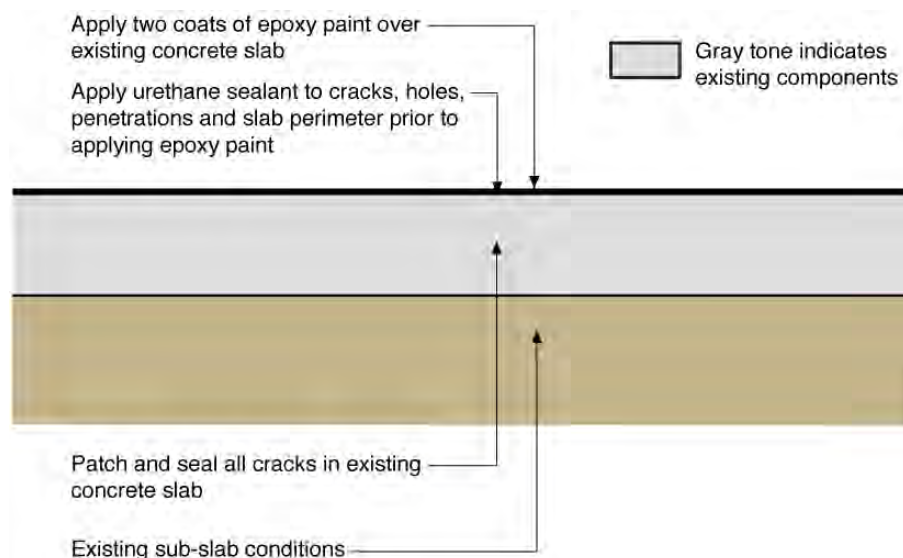

Figure 1. An uninsulated (or existing insulated) basement slab is retrofitted to reduce moisture transmission by sealing with epoxy paint. Reference
The epoxy paint is applied directly to the cleaned, patched concrete slab surface (see Figure 1). Water-sensitive materials should not be placed in direct contact with the slab. For instance, all wood wall sill plates should be pressure treated and/or separated from the slab with a capillary break. All interior gypsum board should be held off the slab surface.
6. Apply two coats of epoxy paint over the existing slab per manufacturer's recommendations (see Figure 1).